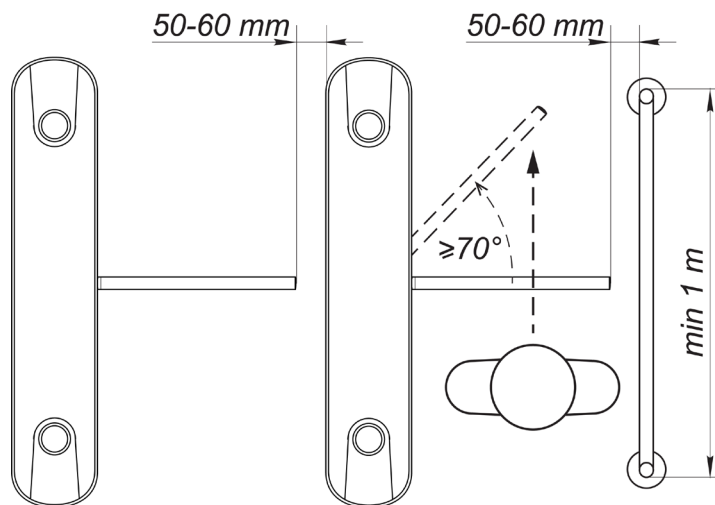

Fig.9 Recommendations on creation of the passage area
- to organize the passage zone according Fig. 9;
To ensure accurate passage tracking when the turnstile is operated with an ACS, it is recommended to create the passage area in such a way that the barrier arm turning in the direction of movement must be at the angle of not less than 70° (Fig. 9).